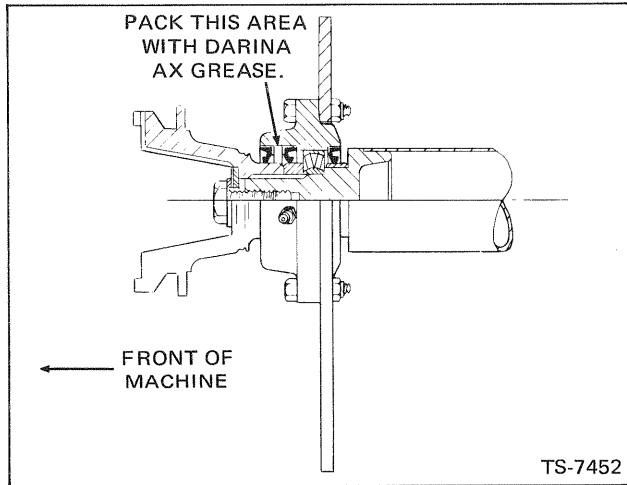

Fig. 9-4 Pillow Block
4. Pack the area behind the above removed seal with Darina AX grease. See Fig. 9-4 which illustrates the area to be greased.